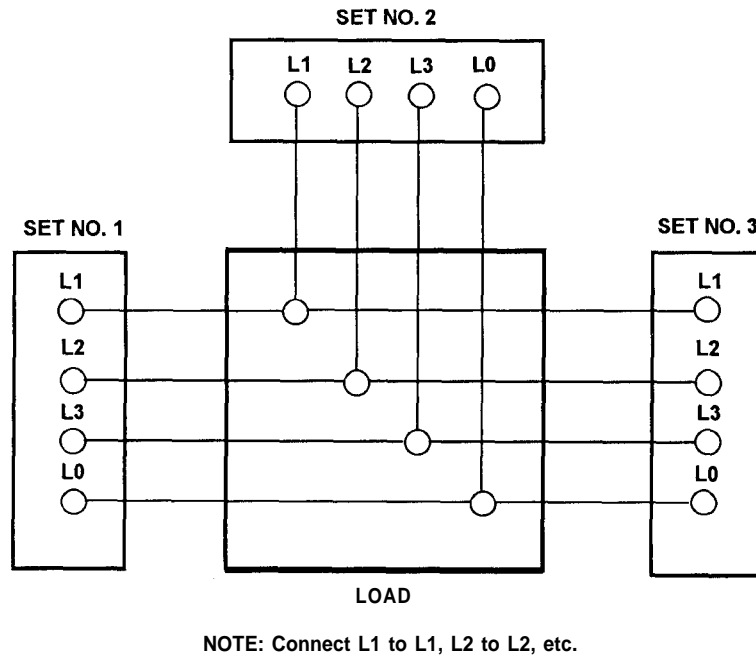
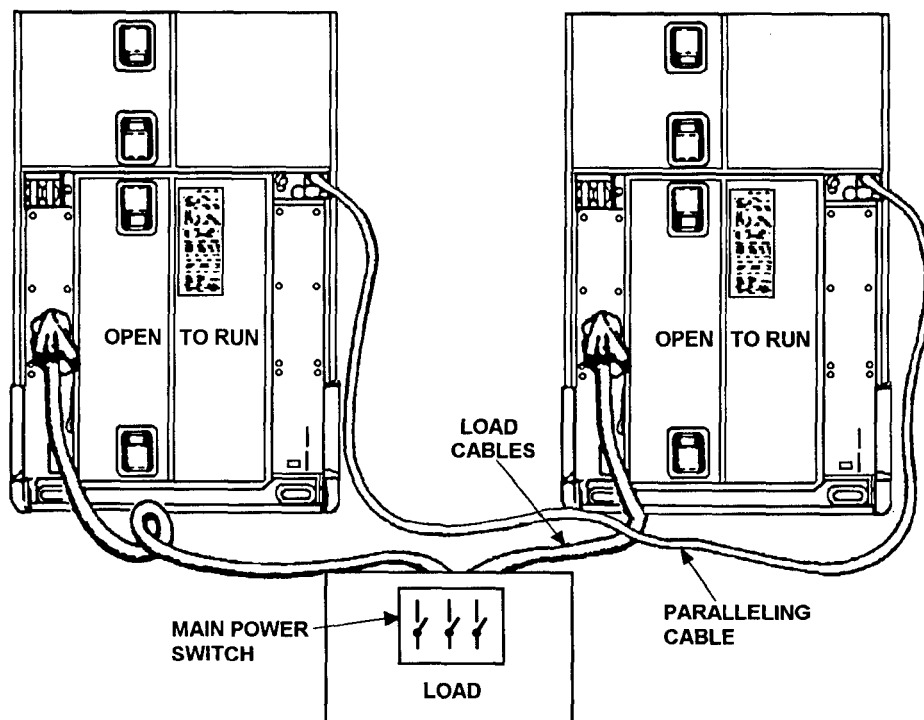

Figure 2-5. Parallel Connection
Figure 2-6. Paralleling for Load Transfer
- e. Connect load leads and paralleling cables as shown in Figure 2-5 and Figure 2-6.
**Check that the main power switch (Figure 2-6) at the load is open before attempting to place a generator set on line. Equipment damage could result if caution is not observed.**
Observe the synchronizing lights of the "on-coming" set. The lights should go on and off simultaneously. If the lights go on and off alternately, sets are out of phase. Stop both sets and correct interconnect cables (Figure 2-5). If the problem persists, refer to next higher level of maintenance.
Visually check that the power cable and parallel cable are in accordance with Figure 2-6. If the cables are not attached as indicated, shutdown the "on-line" set and follow instructions in paragraph 2-9.
- (1) The first set started shall be designated as "on-line" and the sets in parallel operation shall be designated "on-coming". With all sets shut down connect the load terminal boards as described in paragraph 2-4e. Check that the voltage reconnection boards (paragraph 2-5) of the sets are identically positioned.